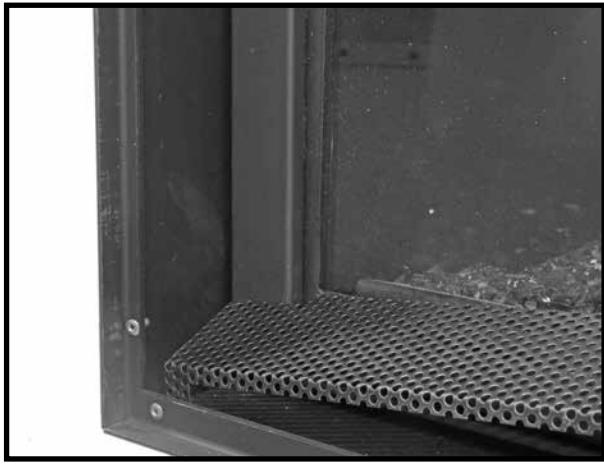
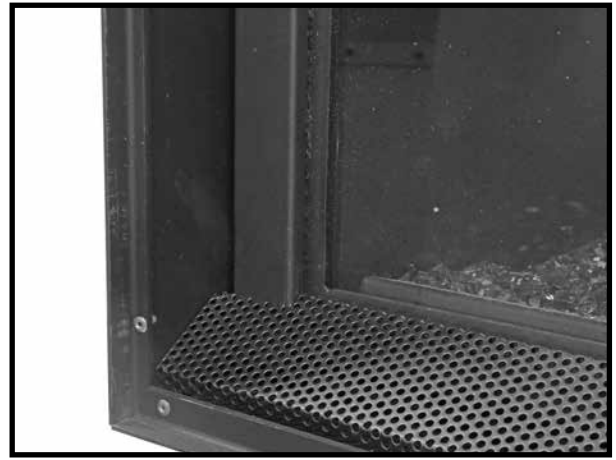

Figure 53: Installing bottom trim.
Figure 54: Bottom trim in place.
4. The meshed trim piece for the bottom rests on the floor and in the gap between the outer-most door frame and the fireplace glass (Figure 53 and Figure 54).